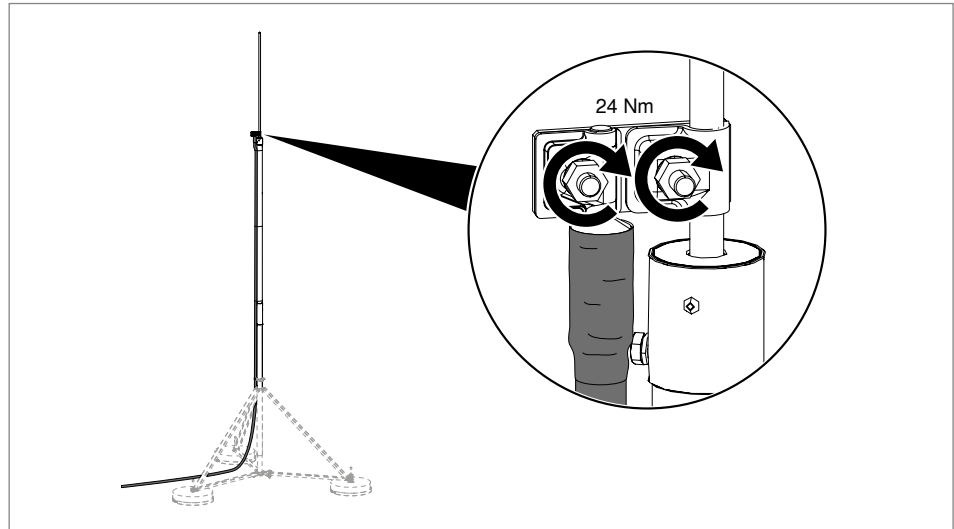

Fig. 37: Mounting the connection plate for one isCon® conductor on the air-termination rod
1. For 2 isCon conductors, use the connection plate for 2 conductors (type isCon AP2-16 VA). When connecting 4 conductors, mount 2 connection plates over each other (see Fig. 37).
3. Run the conductors downwards on the air-termination rod, ideally opposite one another (see Fig. 37).